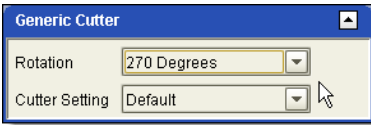

Figure 10—Cutter Settings
2. If you want to change the rotation or apply a different cutter setting, use the mini-arrow in the right corner of the cutter head-ing. This expands and contracts the rotation and cutter setting options. Use the drop-down arrows to make your selection (see Figure 10).